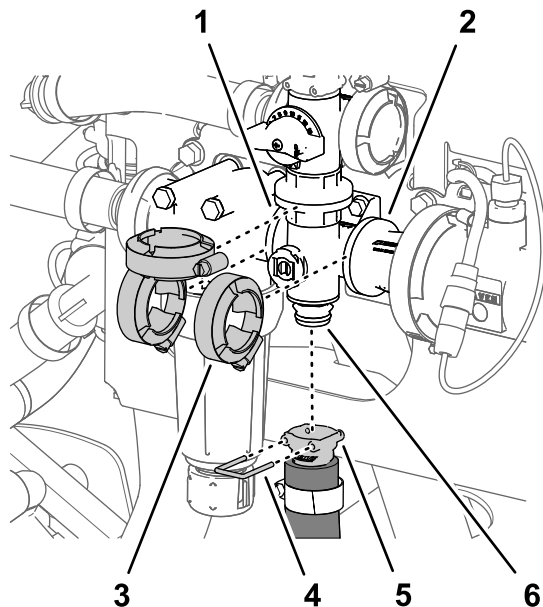

Figure 114
1. Remove the quick connect pin that secures the quick-connect coupler for the agitation hose to the manifold for the agitation valve (Figure 114).
2. Remove the 3 flange clamps that secure the agitation-valve manifold to the flanges of the pressure-filter head and the coupling adapter (Figure 114).